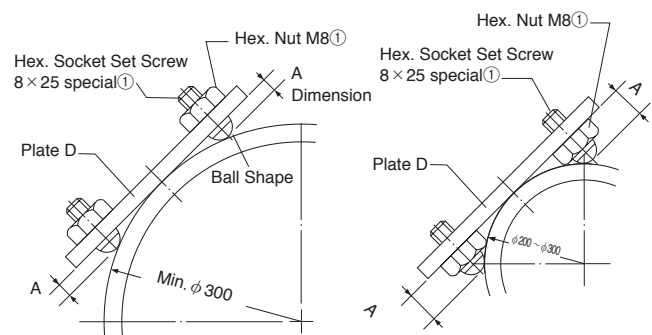

Fig.13
The tool can be used on the workpieces at the minimum diameter of 300mm by adjusting dimension A of both Hex. Socket Set Screws (8×25 special) ① in either direction. (Fig.13)
Chamfering on an outer diameter of O.D. 200mm – O.D. 300mm can be done by placing the Hex. Nut on the other side of Plate D. (Fig.13, 14)